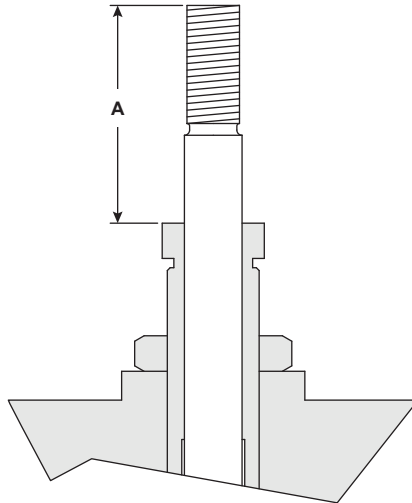

Fig. 3
- 5 Move the lower ring (7) upwards (anti-clockwise) until it comes into contact with the face of the disc holder (Figure 3).
- 9.1.3** Make a note of dimension A, as shown in Figure 3. You will need this information to position the adjusting screw (24) when reassembling the valve.